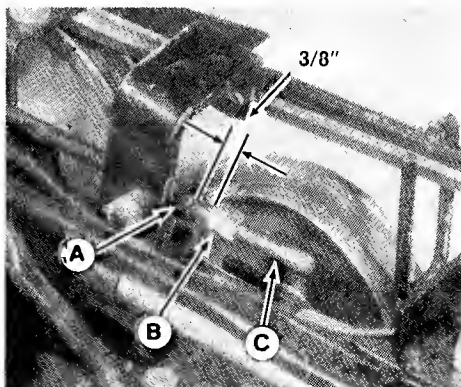

Figure 35. Clutch Rod Clearance Adjustment
- Pull back firmly on the clutch rod (C, figure 35). There should be a 3/8 inch (9.5 mm) gap between the clutch rod guide (A) and the clutch rod adjusting nut (B).